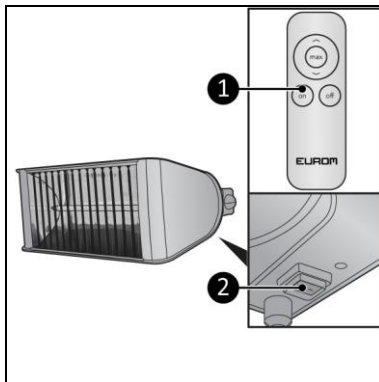

Figure 11
1. Press the ON/OFF switch (Figure 11, pos. 2).
3. Press the ON button on the remote control (Figure 11, pos. 1).